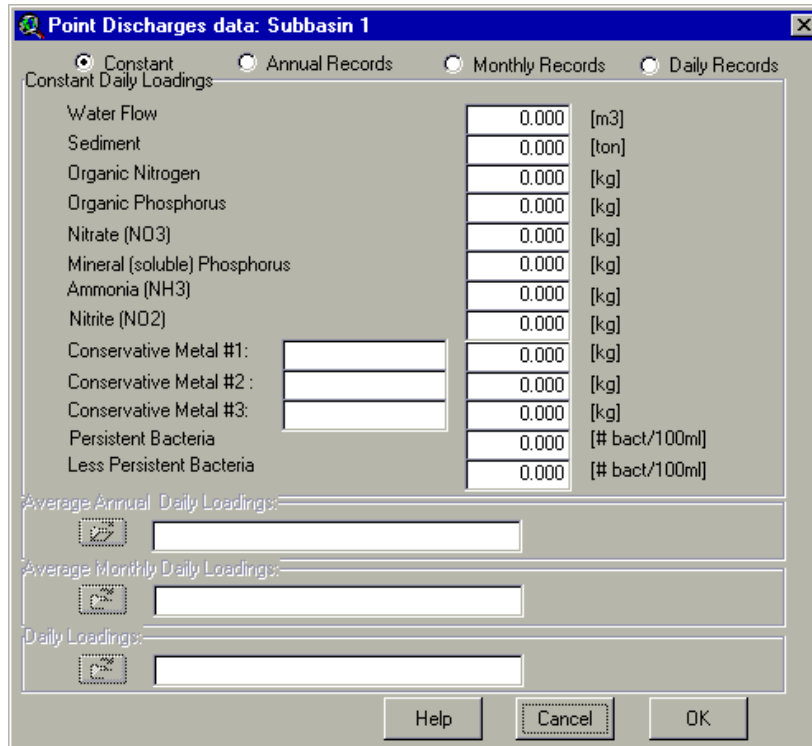

Figure 9.5
2. To edit point source data for a subbasin, click on the number of the subbasin on the list. The Point Discharges Data dialog box will open, displaying the data for the point source in the selected subbasin (Figure 9.5).